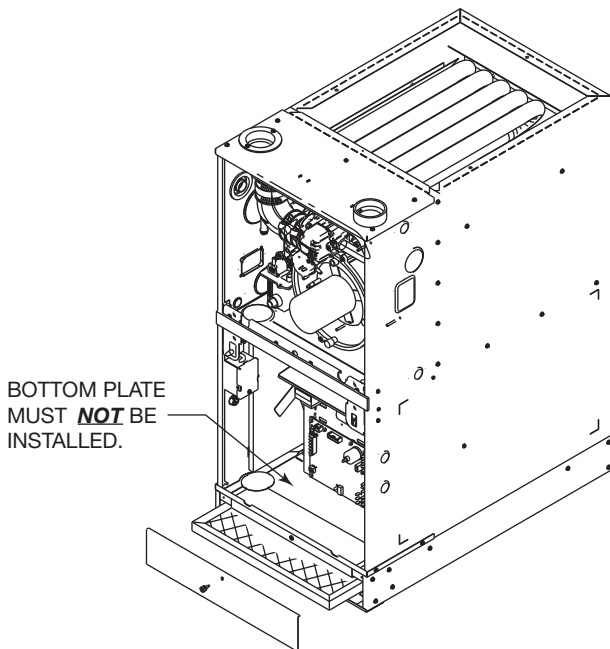

FIG. 2
4. A bottom plate must **NOT** be installed for upflow installation with bottom-mounted filter rack as shown in **Figure 2**.